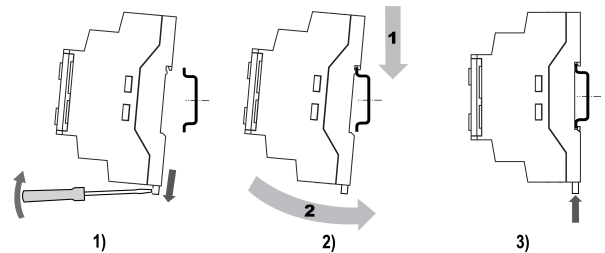

Fig. 2 – Installation
1. Place the device on a DIN rail as shown in Fig. 2.